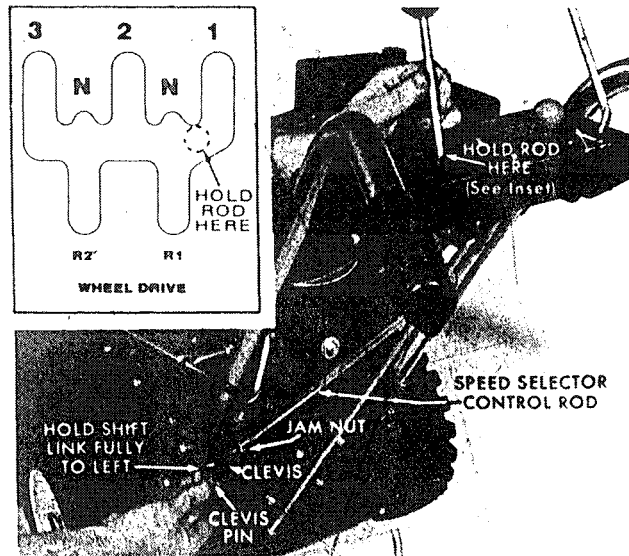

Figure 5
8. Move the shift link fully to the left to insure a full range of shifting. Hold the shift rod between the neutral (N) detent and 1st gear slot on control panel as shown. THE ROD MUST BE HELD AGAINST THE HUMP – NOT IN THE NOTCH. (See inset). While holding the shift link fully to the left, adjust the clevis on the speed selector control rod so the clevis pin slips easily through the clevis and the link. Secure the pin with the cotter pin and tighten the jam nut against the clevis. See Fig. 5.